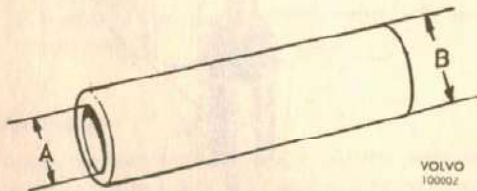

Fig. 1-83. Tube for fitting the valves
5. Press down the valves to the correct position. A tube as shown in the figure 1-83 can be used for this.